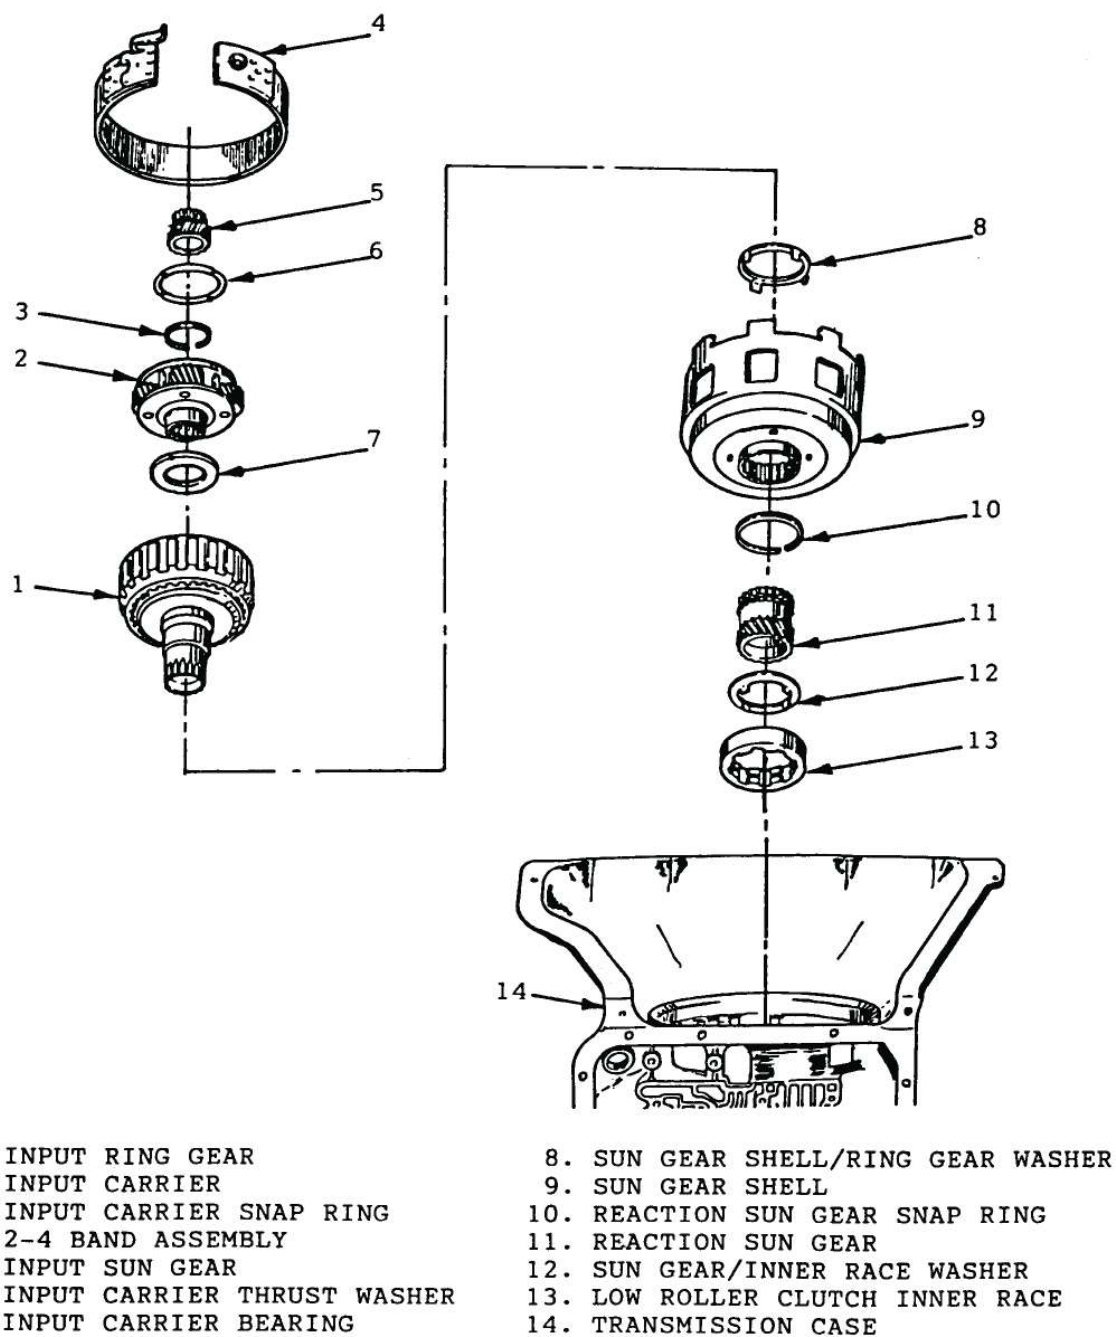

Figure 68
- 11. Refer to Figure 68 for proper assembly of input gear set.